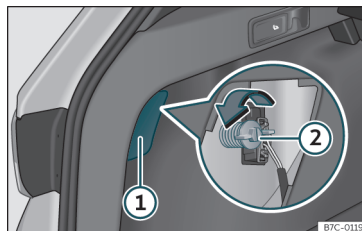

Fig. 91 Boot: access to the bolt securing the tail light unit.
- Remove the lid, levering it with the flat side of a screwdriver into the recess »» Fig. 91 ①.
- Unscrew the light securing bolt by hand or using a screwdriver »» Fig. 91 ②.